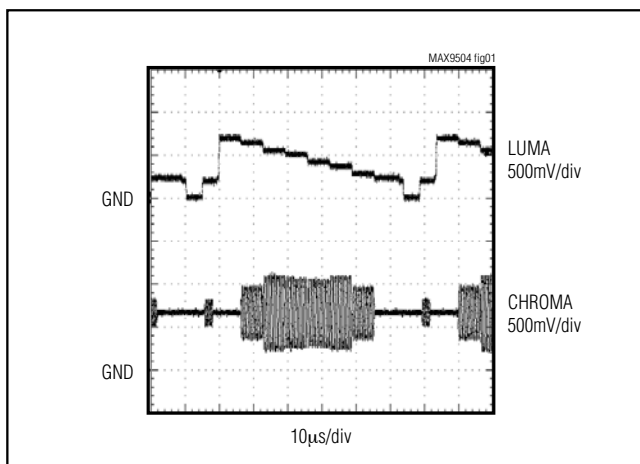

Figure 1. Oscilloscope Trace of Luma and Chroma Signals from Video Current DAC
Video current DACs source current into a resistor connected to ground. The output voltage range for composite video and luma (Y) is usually from ground up to 1V (see Figure 1). Notice that the sync tip is quite close to ground. Standard single-supply amplifiers with rail-to-rail outputs have difficulty amplifying input signals at or near ground because their output stages enter a nonlinear mode of operation when the output is pulled close to ground.
At the output of a video current DAC, the blank level of the chroma signal is usually between 500mV to 650mV. The voltage swing above and below the blank level is approximately  $\pm 350$ mV (see Figure 1). If the blank level is 550mV, then the lowest voltage for the chroma signal is 200mV. For the case of chroma signals, no input level shift is needed because 200mV gained up by two is 400mV, which is well within the linear output range of the MAX9504A or MAX9504B. Since the MAX9504A does not have an input level shift, the MAX9504A should be used with chroma signals. In summary, use the MAX9504B with composite video and luma signals from a DAC, and use the MAX9504A with chroma signals from a DAC.